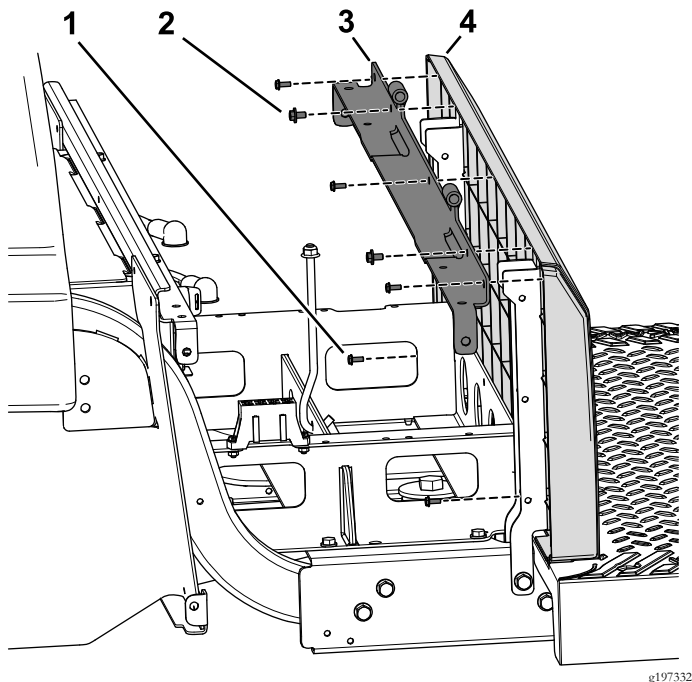

Figure 86
5. Use the 2 bolt with washer assemblies (1/4 x 1/2 inch) to secure the angled-support bracket and seat-base panel to the left and right seat supports (Figure 86).
6. Use the 5 screws (#10 x 1/2 inch) to secure the back panel to the angled-support bracket and the seat supports (Figure 86).